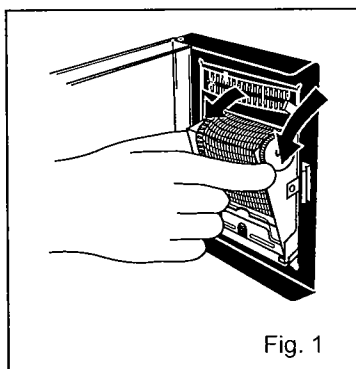

Fig. 1
1. Open the door and let down the lever of the penholder; the pen point is apart from the chart. (Fig. 1)
2. Remove the side cover by loosening four screws. (Fig.1)
3. After removing a grille screw, open the grille as shown in Fig. 1.
4. Remove the control panel by loosening two screws on the lower outside (A) and upper inside (B) of the control panel. (Fig. 1)